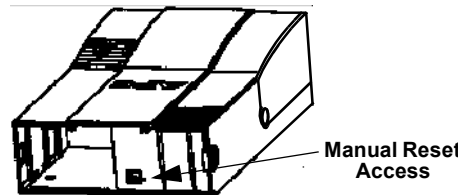

Figure 12. Manual Reset Access
11. To reset the Back-UPS HS to factory default values, use the **UPS Settings** button. If the Back-UPS HS does not reset using the software, remove the Battery Cover and insert a small object (about 2 inches in length) into the hole located next to the telephone jack (Figure 12) for approximately 5 seconds. **Note:** The telephone jack is provided for factory testing only - do not connect anything to this jack).